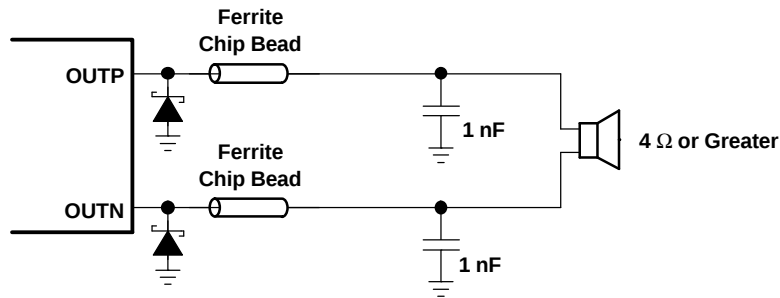
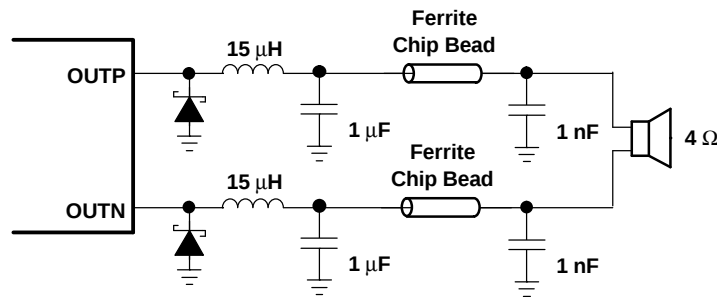
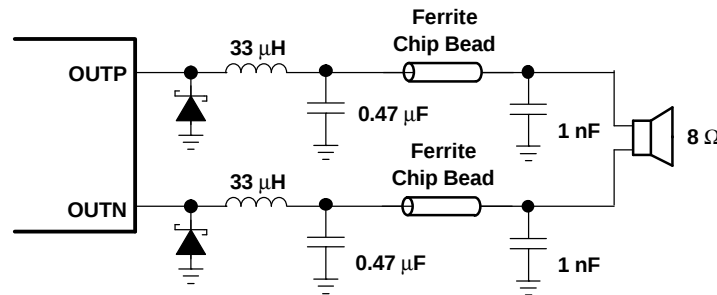

Figure 22. Typical Ferrite Chip Bead Filter (Chip bead example: Fair-Rite 2512067007Y3)
Figure 23. Typical LC Output Filter for 4-Ω Speaker, Cutoff Frequency of 41 kHz
Figure 24. Typical LC Output Filter for 8-Ω Speaker, Cutoff Frequency of 41 kHz
A ferrite bead filter (shown in Figure 22) should be used in order to pass FCC and/or CE radiated emissions specifications and if a frequency sensitive circuit operating higher than 1 MHz is nearby. The ferrite filter reduces EMI around 1 MHz and higher (FCC and CE only test radiated emissions greater than 30 MHz). When selecting a ferrite bead, choose one with high impedance at high frequencies, but very low impedance at low frequencies.
Use an additional LC output filter if there are low frequency (<1 MHz) EMI sensitive circuits and/or there are long wires (greater than 11 inches) from the amplifier to the speaker, as shown in Figure 23 and Figure 24.
- Output filter — The ferrite filter ( Figure 22) should be placed as close to the output terminals (pins 19, 20, 25, and 26) as possible for the best EMI performance. The LC filter ( Figure 23 and Figure 24) should be placed closest to the output and followed by a ferrite-bead filter. The capacitors used in both the ferrite and LC filters should be grounded to power ground.